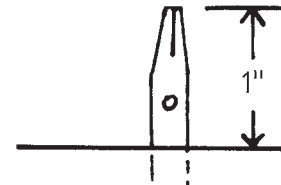

FIG. 1
1. To replace broken or rusty strings, you may need to “unscrew” the tuning pins somewhat to raise them up to the proper starting height - about 1” (fig. 1) Use the tuning wrench to turn the pins counter-clockwise to raise them, or clockwise to lower them in the holes.